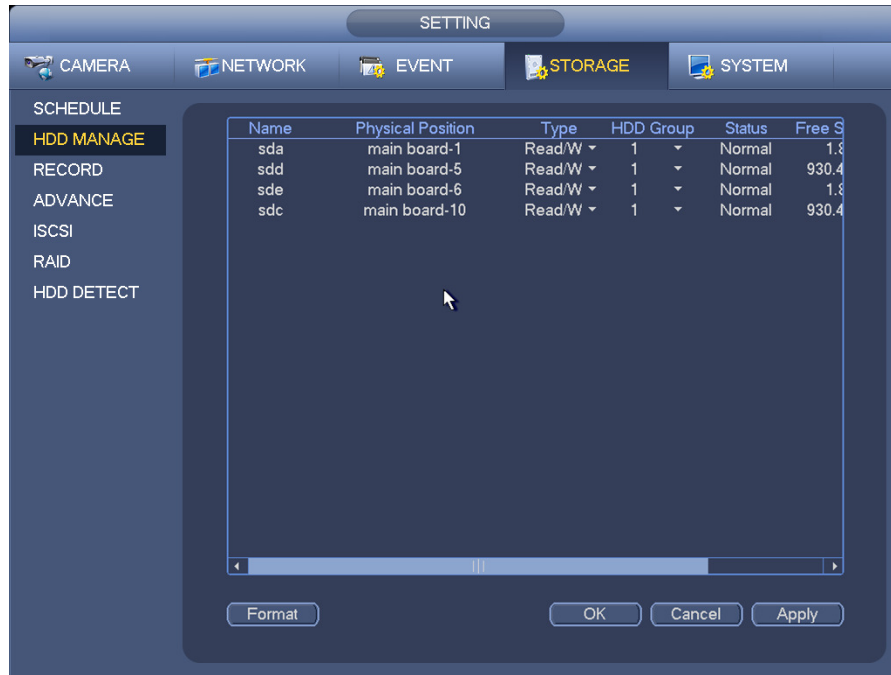

Figure 3-169
- From Main menu->Setting->Storage->HDD Manager, user may go to HDD management interface. See Figure 3-169.